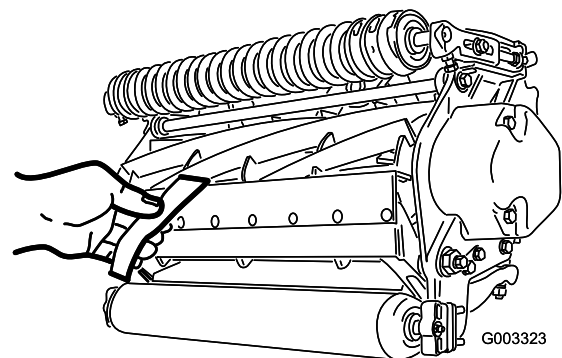

Figure 12
10. Test the cutting performance by inserting a long strip of cutting performance paper (Toro part number 125-5610) between reel and bedknife, perpendicular to the bedknife (Figure 12). Slowly rotate the reel forward; it should cut the paper.